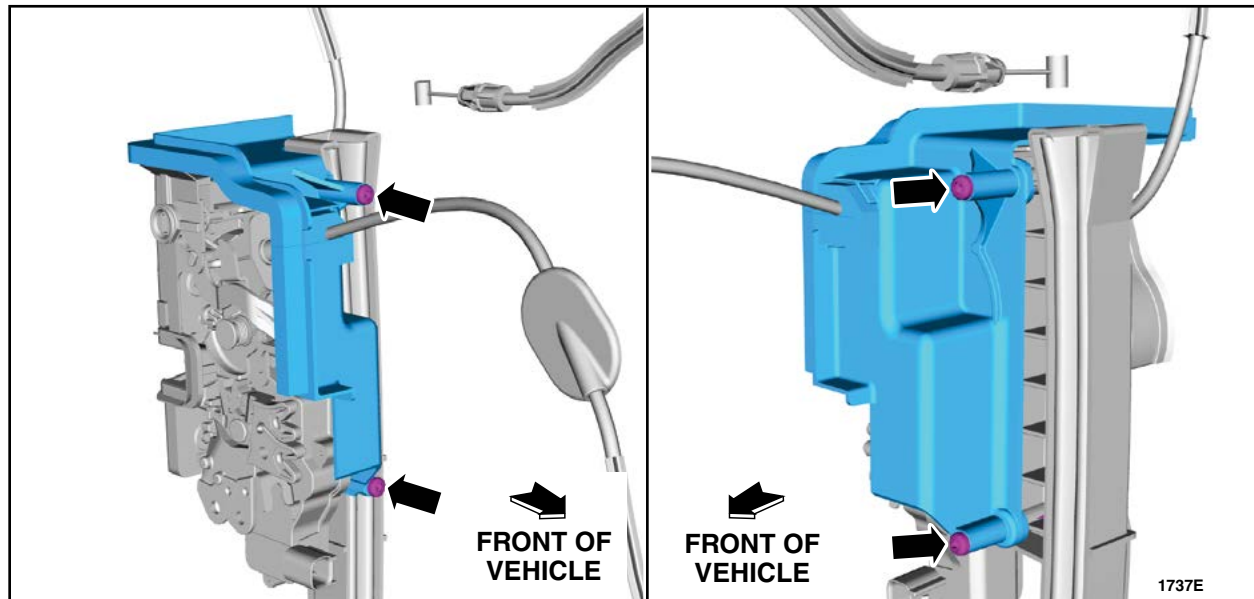

FIGURE 21
6. Install the door latch water shield into position. See Figure 21.
7. Install the *new* screws into the top and bottom holes of the shield. See Figure 21.